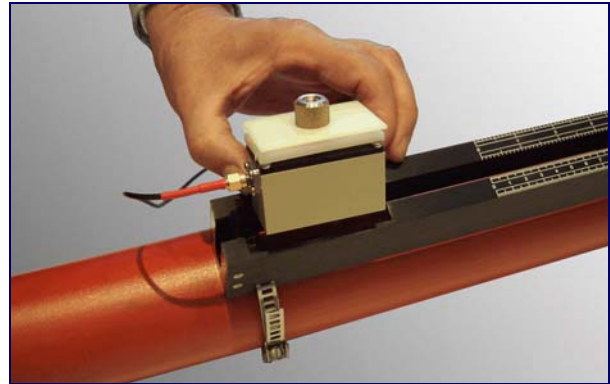

Figure 2.10
7. the upstream signal cable (red) to the other transducer and lower the transducer assembly through the rectangular opening, as shown in Figure 2.10.